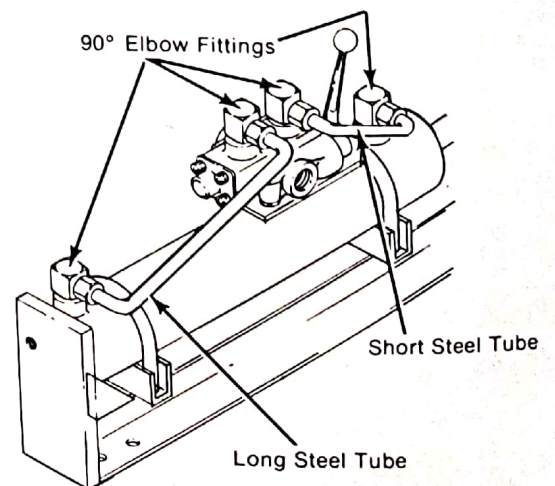

Figure 5
**Step 5)** Install four 90° male elbow fittings in cylinder ports to approximate positions shown. (Fig. 5)
steel tube to fittings in rear ports of control valve and cylinder. Hold flared ends of tubes against flared ends on fittings. If they do not line up, use a wrench to adjust fittings until they line up with tubes. Slide cap nuts over ends of tubes and thread onto fittings. (Fig. 5)